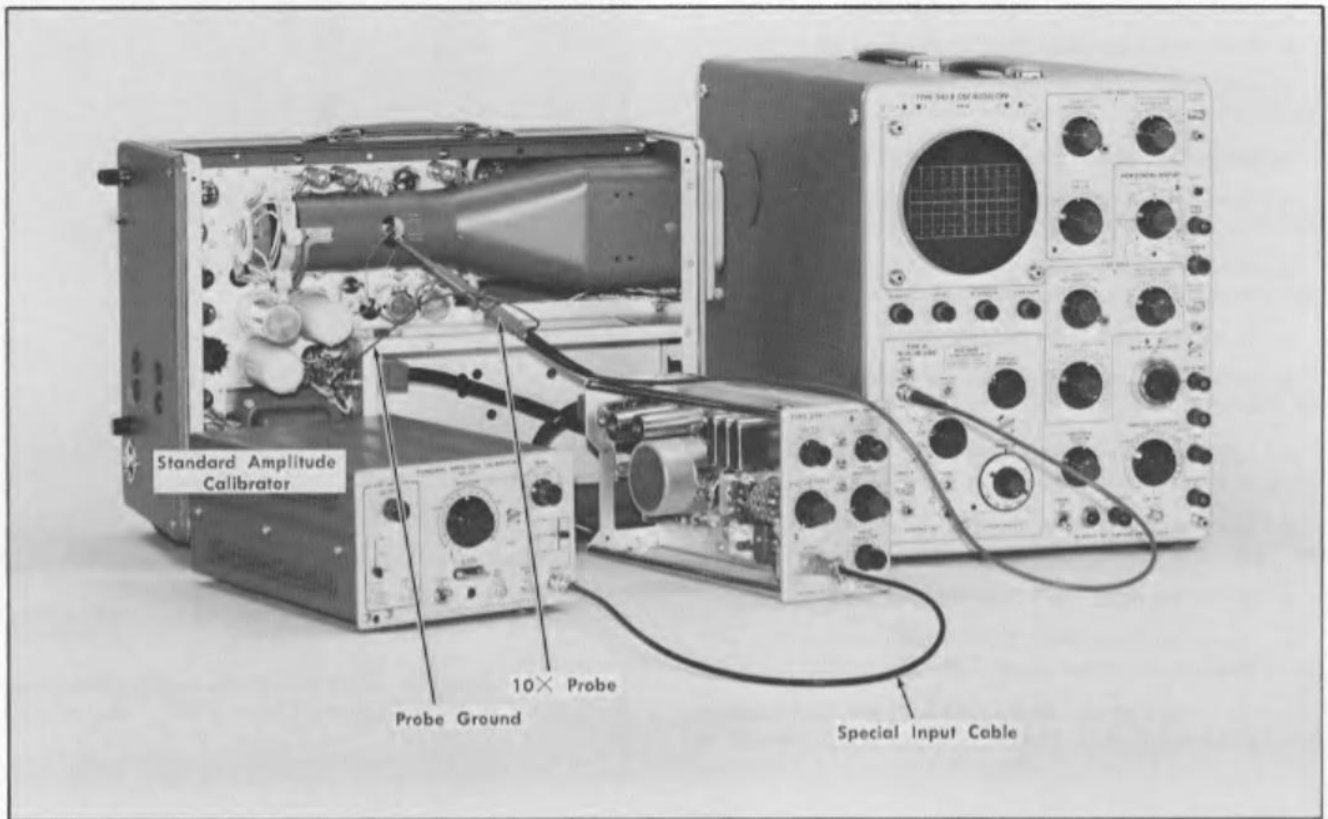

Fig. 6-18. Initial test equipment setup for steps 12 through 14.
- a. Test equipment setup is shown in Fig. 6-18.